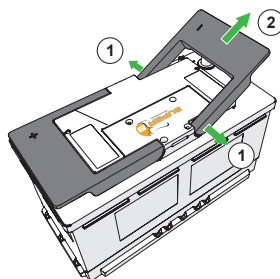

Figure 11. Remove the handles by pulling them outwards.
- b) Remove the handles by pulling them outwards. (Figure 11)